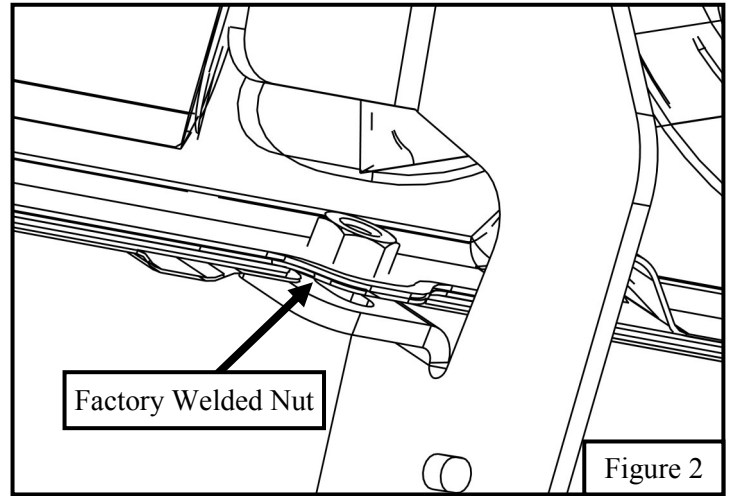

Figure 2
2. **For 1500 Crew Cab models with welded nut:** At each bracket mounting location on the pinch weld there should either be a welded factory nut or a hole. If there is a factory welded nut present then the M8 U-Nut Clip (Item 7) will not be used at that location. See **Figure 2** for the factory welded nut.